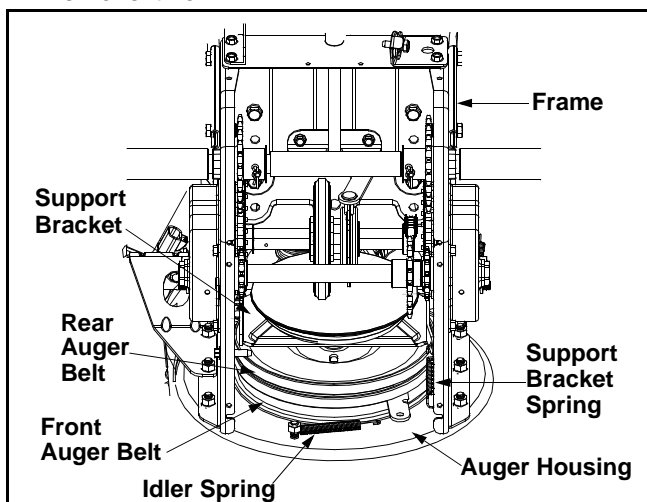

Figure 20
- Unhook the idler spring from the hex bolt on the auger housing. See Figure 20.
- Lift the rear auger belt from the auger pulley, and slip the belt between the support bracket and the auger pulley. Repeat for the front auger belt. See Figure 20.